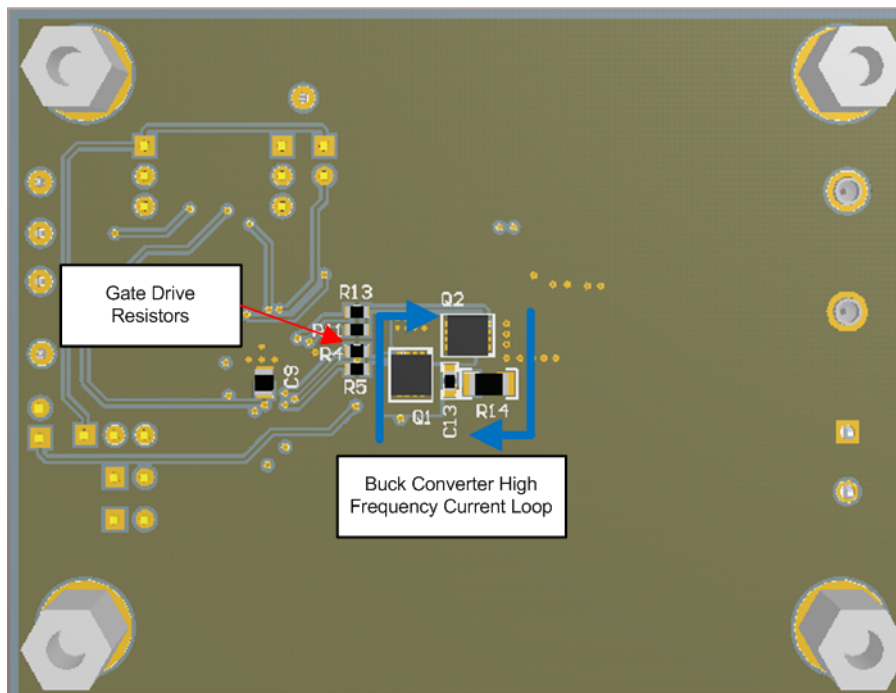
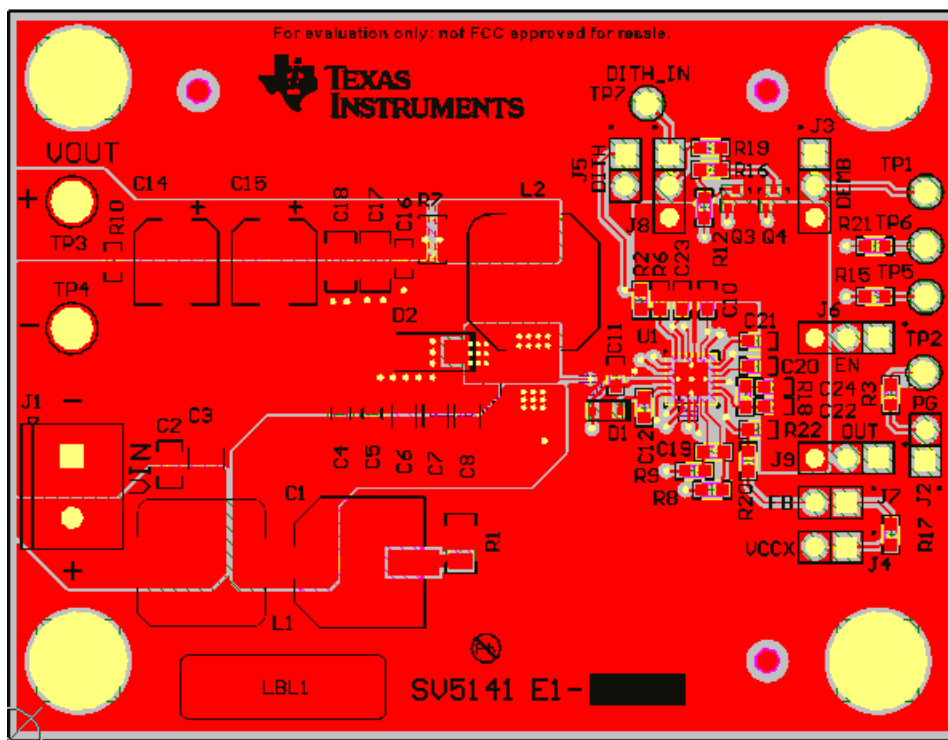
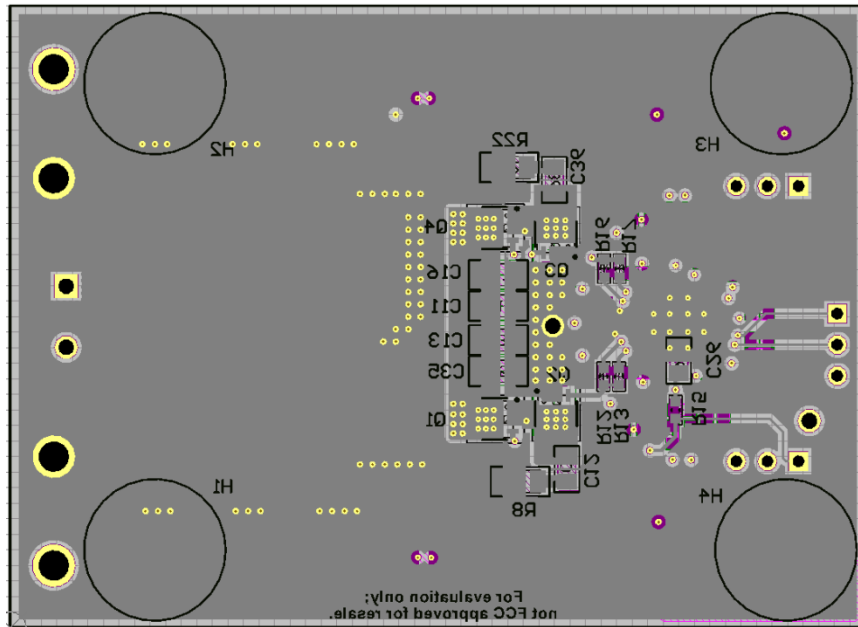

Figure 39. EVM Bottom Layer, High Frequency Current Loop
Figure 41. EVM Top Layer
Figure 42. EVM Bottom Layer
- Figure 39 shows the high frequency loops of the synchronous buck converter. The high frequency current flows through Q1 and Q2, through the power ground plane and back to  $V_{IN}$  through the ceramic capacitors C6, C7, and C8. This loop must be as small as possible to minimize EMI. Refer to Figure 41 and Figure 42 for the recommended PCB layout.
Figure 41 and Figure 42 show the top and bottom layer of the LM5141-Q1 EVM.